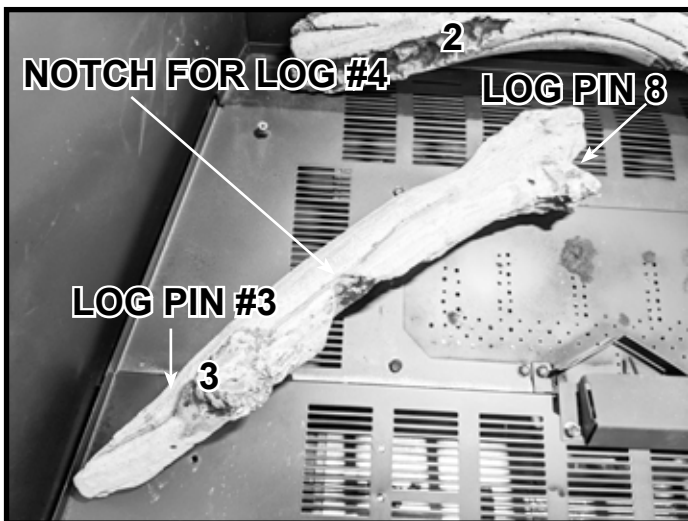
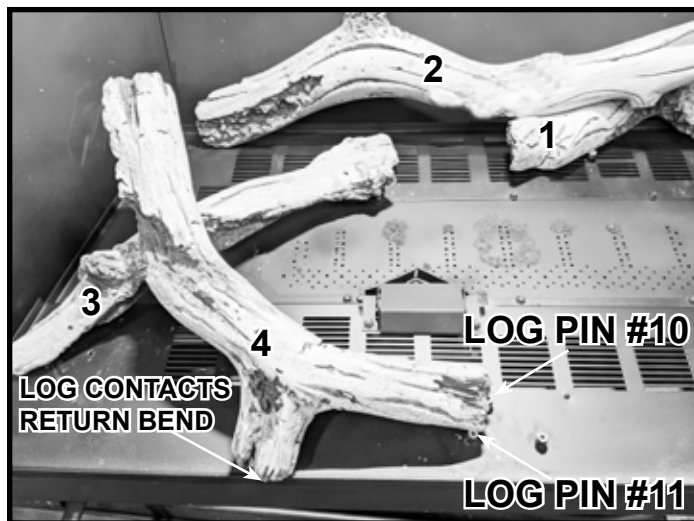

Figure 8 Place Log #3
Figure 9 Place Log #4
**Log #3:** Place the right end of Log #3 against Log Pin #8 as shown in Figure 8. Rotate the left end of Log #3 clockwise until it touches Log Pin #3.
**Log #4:** Place the right end of Log #4 with Log Pins #10 and #11 as shown in Figure 9. Rest the left end of Log #4 on the notch on Log #3 shown in Figure 8.